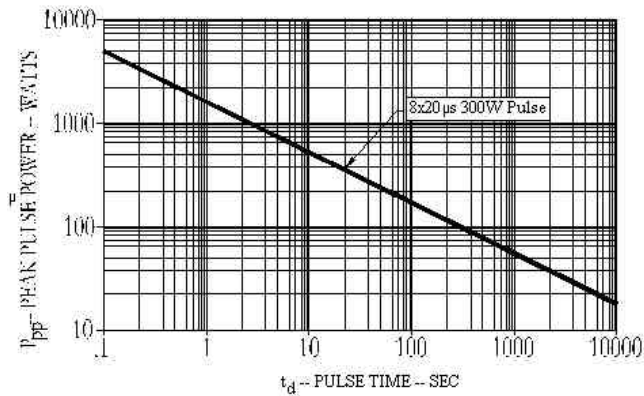

FIGURE 1
- Peak Pulse Power: 300 Watts (8/20 µsec, Figure 1)